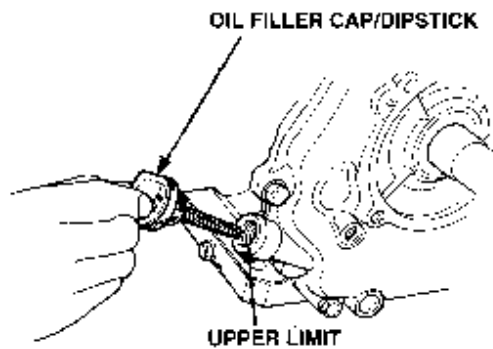

Figure 3-6: Checking Oil Level
- (1) When checking oil, observe the following (see Figure 3-6):